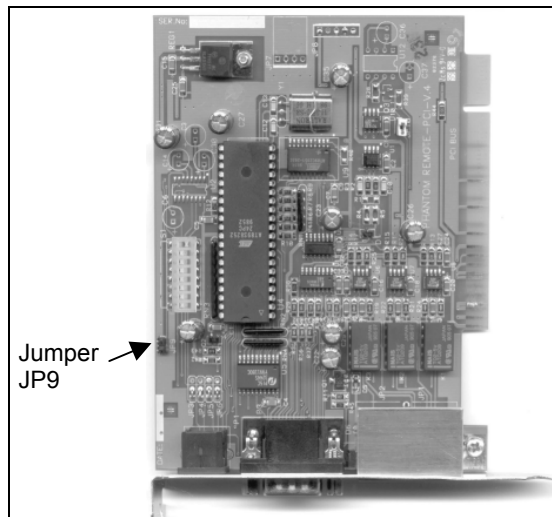

Figure 8-8 Jumper JP9
2. Open the cover of the **Slave** computer extract the **Slave** card and close Jumper **JP9**. See Figure 8-8.